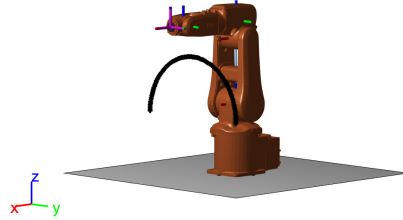

Figure 3: Desired semi-circle trajectory with robot in the home position.
- a. The end-effector trajectory is the top half of a circle located in the $Y - Z$ plane. The circle has radius 0.25 and is centered at $x = 0.25$, $y = 0$, and $z = 0.25$ (see Fig. 3). First you will need to express the desired end-effector trajectory as a time varying vector:
To find the desired orientation note that in the MATLAB simulation the tool frame is parallel with the Global axis when the robot is at the home position (e.g., $\mathbf{q} = 0$), as shown in Fig. 3. You want the x -axis of the tool frame to be normal to $\mathbf{r}(t)$, or put another way, the z -axis of the tool frame should be tangent to $\mathbf{r}(t)$. To find the proper orientation, consider what rotations are need to move the end effector from is home position to the proper normal orientation. (*Hint: The desired orientation can be expressed as x - y - z Euler angles with $\phi_x = \alpha$, $\phi_y = 0$ and $\phi_z = \frac{-\pi}{2}$, where α is the direction cosine of the vector tangent to the curve with the unit z -axis.*)